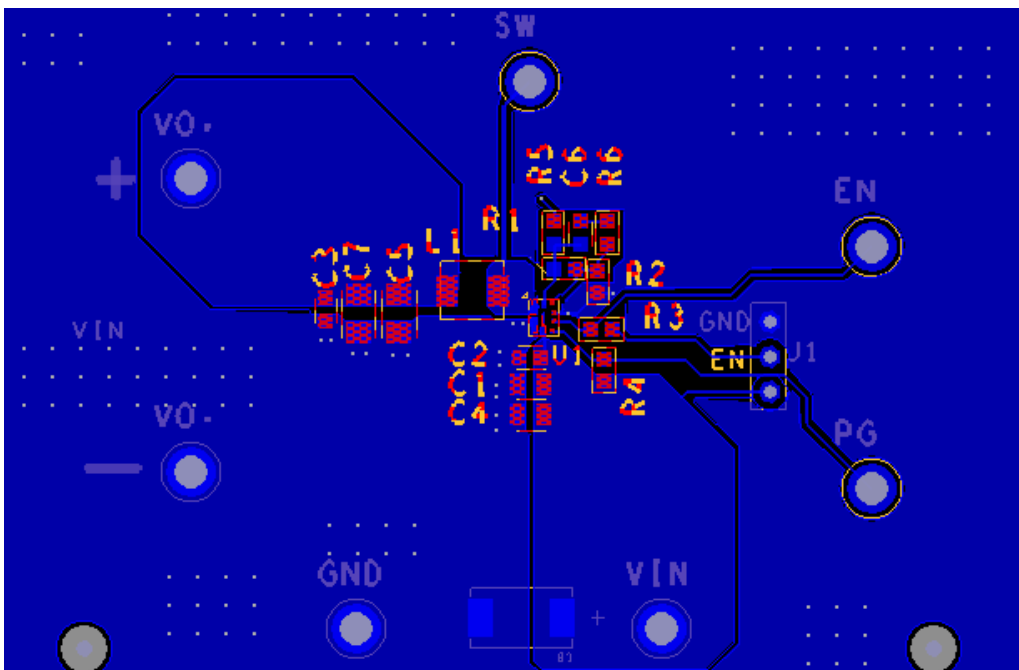

Figure 50. Printed Circuit Board Example Component Placement
Proper layout of the power converter minimizes EMI and noise and insure first pass success of the design. PCB layouts are provided in multiple formats on the Renesas web site. In addition, Figure 50 makes clear the important points in PCB layout. In reality, PCB layout of the RAA808015A is quite simple.
- A multi-layer printed circuit board with GND plane is recommended. Figure 50 shows the connections of the critical components in the converter. **Note:** Capacitors on the input and output can each represent multiple physical capacitors. The most critical connections are to tie the PGND pin to the package GND pad. This connection of the GND pad to GND plane insures a low-impedance path for all return current, and an excellent thermal path to dissipate heat. With this connection made, place the high-frequency MLCC input capacitor near the VIN pin and use vias directly at the capacitor pad to tie the capacitor to the GND plane.
An example component placement is shown in Figure 50